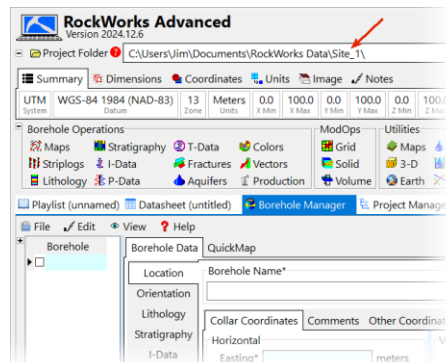

Figure 42
- Click the *Next* button and accept the default parameters within subsequent dialogs. This will create a new, unpopulated *Project Folder* titled "Site_1" (Figure 42).